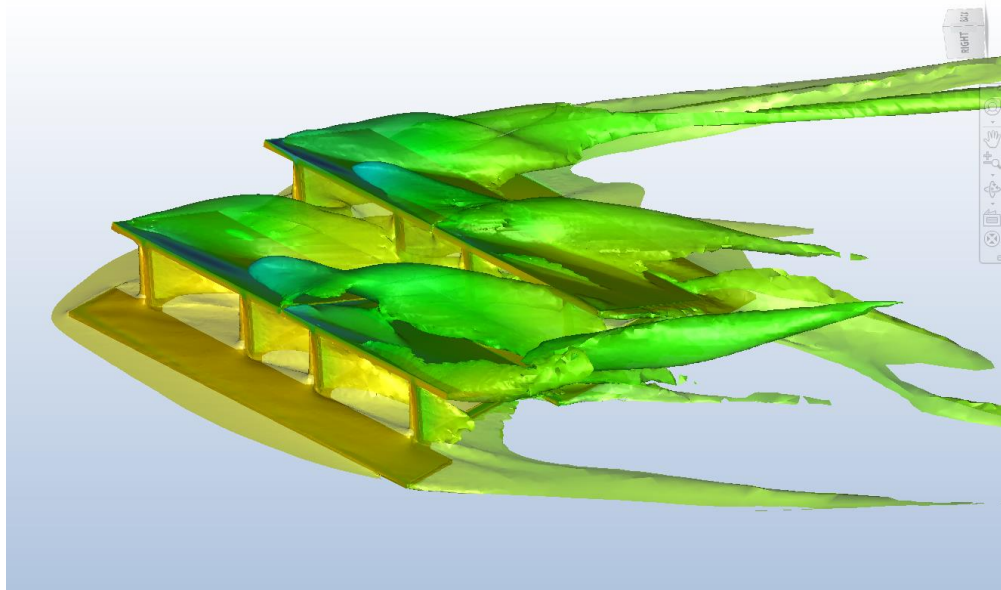
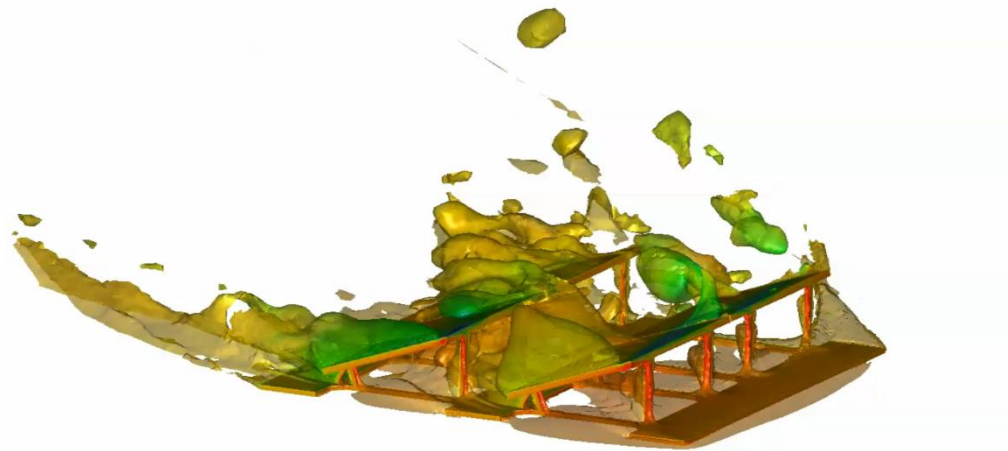

FIGURE 23: 20 MPH ISO-SURFACE OVER SOLAR PANEL SOLVED STEADY STATE
FIGURE 24: 20 MPH ISO-SURFACE OVER SOLAR PANEL WITH TRANSIENT SOLVER
- Figure 23 and Figure 24 show how the transient solver captures the complex turbulence structures in the wake region of the solar panel.